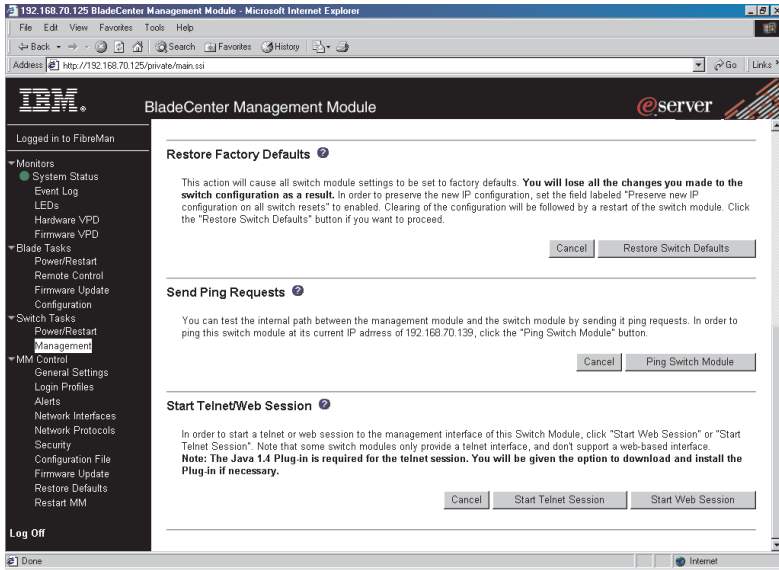

Figure 13. Switch Management window - advanced
7. Scroll down and click **Advanced Switch Management**. A window similar to the one in Figure 13 on page 31 opens.